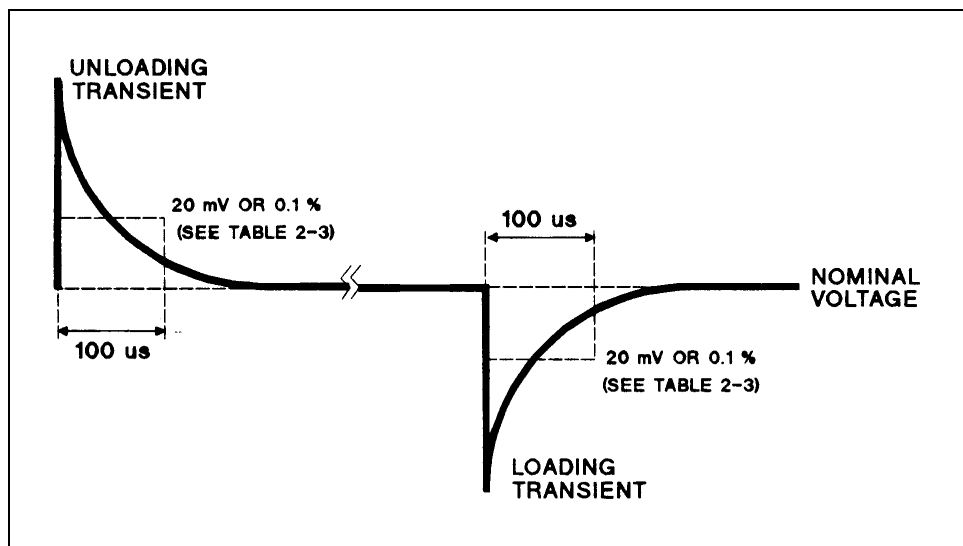

Figure 2-2. Transient Response Waveform
- Adjust the oscilloscope for a waveform similar to that in Figure 2-2.